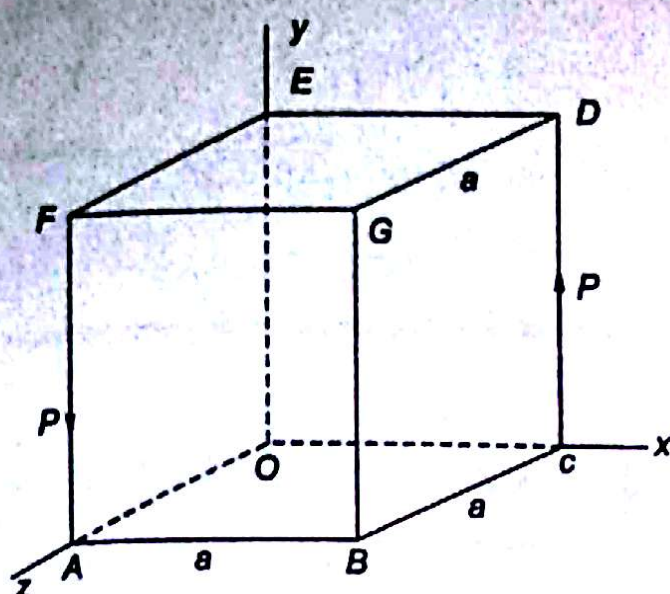

Fig. 1.31
1.7 Two forces $+P$ and $-P$ act along two edges of a cube of side a . What is moment of the couple (Fig. 1.31)?